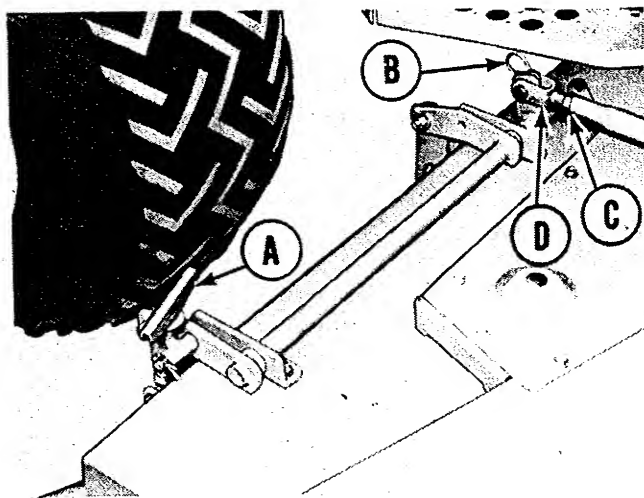
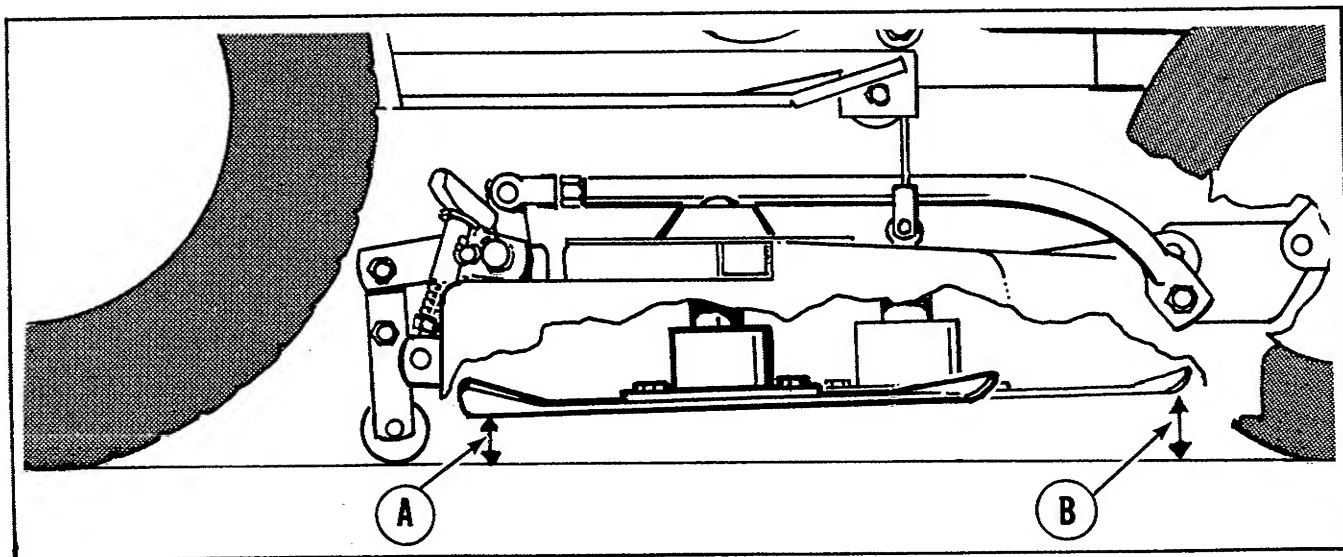

Figure 10. Right side of mower shown mounted beneath tractor.
Figure 11. Front to rear height adjustment checked from right side of mower.
See figure 10. The cutting height of the mower is adjustable 1-5/8" to 3 inches. To adjust the height of cut, turn the adjusting handles (A) on each side of the mower clockwise to raise the blades and counter-clockwise to lower them. The two handles should be rotated the same direction and number of turns so they carry equal weight of the mower and keep the mower level. When the two handles require equal effort to turn them, it is a good indication the mower is level; however, it is advisable to occasionally drive the tractor and mower on a smooth, level surface and check the height of the two outside blades to insure they are cutting at equal height.
See figure 11. To give the best mowing job, the mower should be adjusted so the front of the center blade (B) is 1/4" higher than the rear of the two outside blades (A) when
5. See figure 11. Rotate the right mower blade so it is parallel with the tractor and the tips point straight toward the front and rear.
6. Turn the mower height adjusting handles (figure 10, item A) so the rear tip of the right blade (figure 11, item A) is 2 inches from the ground surface.
9. Turn the center blade so the tips are pointing straight toward the front and rear. Measure the distance from its front tip to the ground surface. (figure 11, item B). The distance should be 2-1/4" - 1/4" more than the distance from the rear tip of the outer blades to the ground surface.
10. See figure 10. If adjustment is needed, remove the two spring clips and pins (B), loosen the locking nuts (C) and turn the eyebolts (D) clockwise to raise the front of the mower or counter-clockwise to lower the front of the mower as needed. Always turn each of the two eyebolts the same number of turns in the same direction.
11. See figure 10. After making the adjustment, tighten the locking nuts (C), reinstall the pins (B) and spring clips.